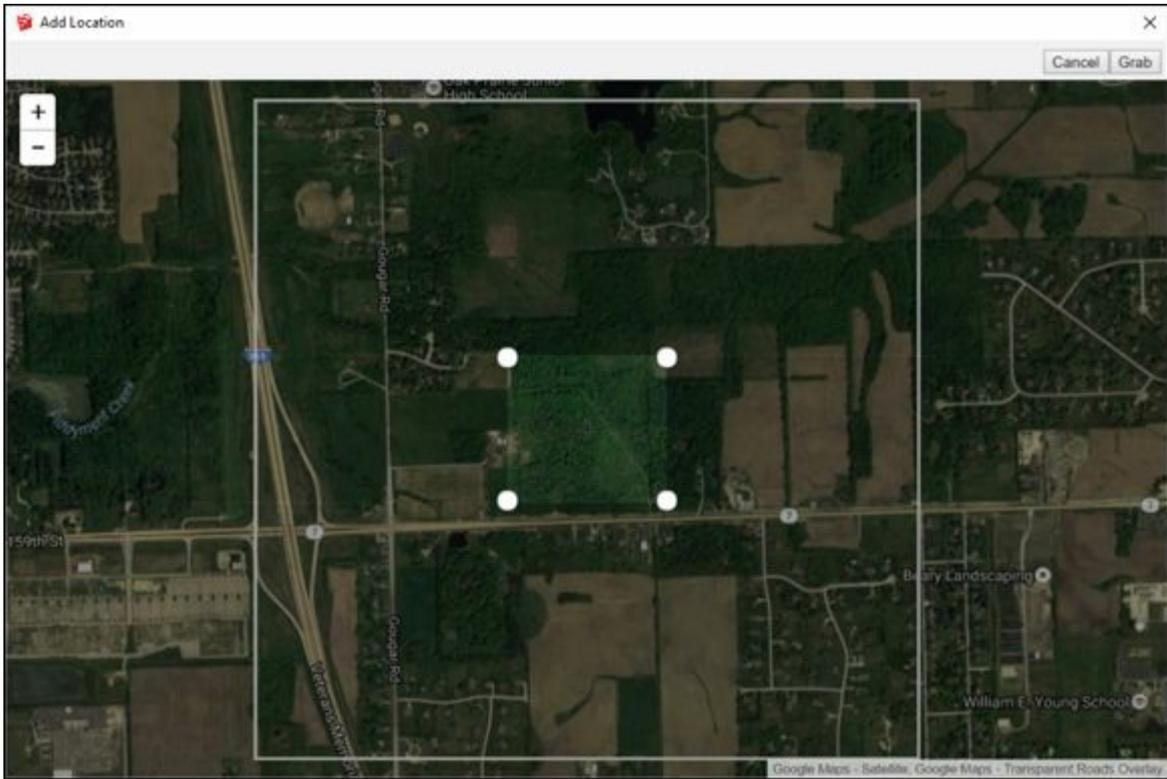

FIGURE 8-19: The area you frame with the pins is imported into your model as a geo-location snapshot.
Notice the angled face we created in Figure 8-19.
6. **Drag the pins to specify the precise corners of your geo-location snapshot, as shown in Figure 8-19.**